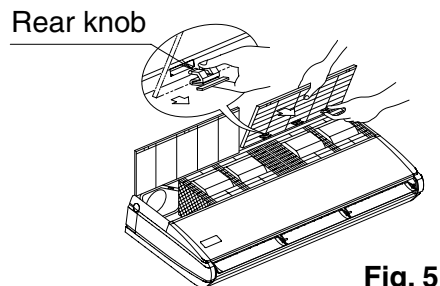

Fig. 5
- Keeping the suction grille opened, hold the knob at the back of the suction grille and at the same time, pull the suction grille forward to remove. **(Refer to Fig. 5)**